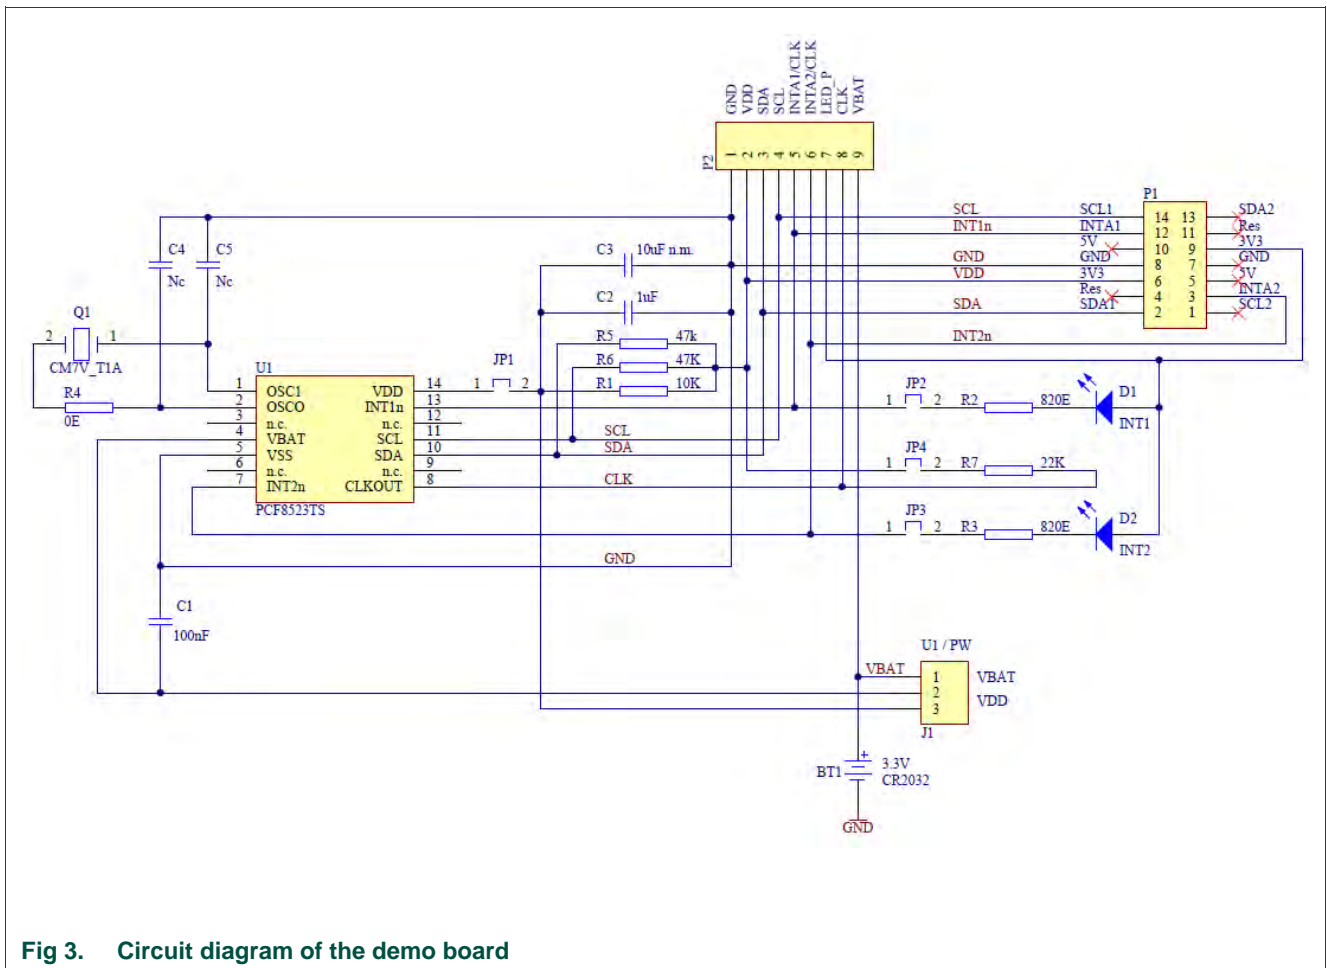
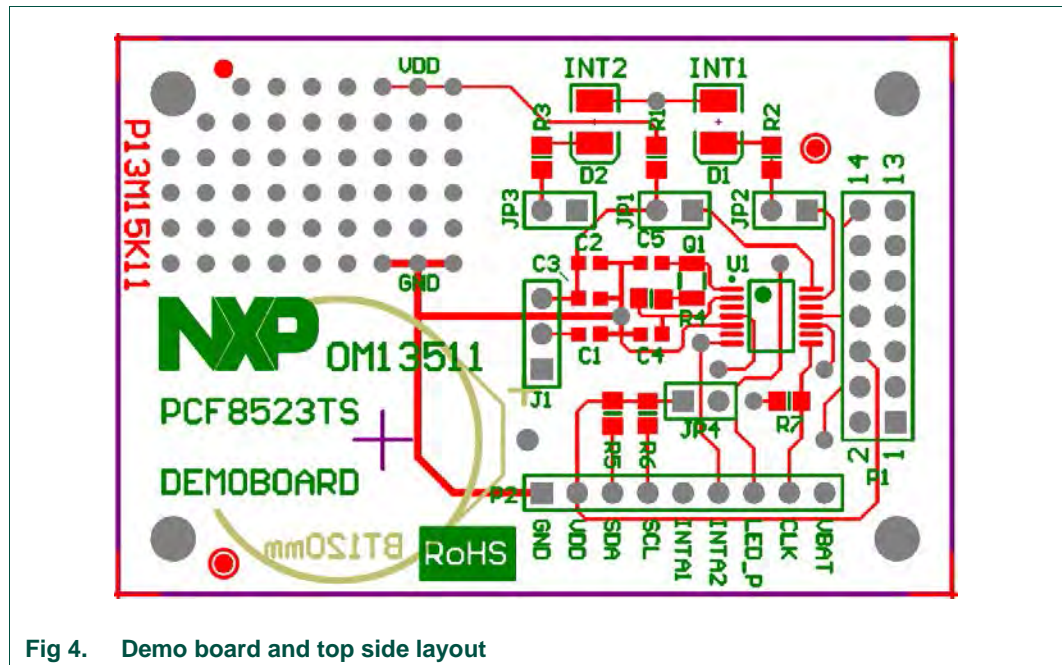

Fig 3. Circuit diagram of the demo board
Fig 4. Demo board and top side layout
- Position of the jumpers and connectors are found in the circuit diagram in Fig 3 and the layout drawing in Fig 4.
| Fig 4. | Demo board and top side layout | 7 |